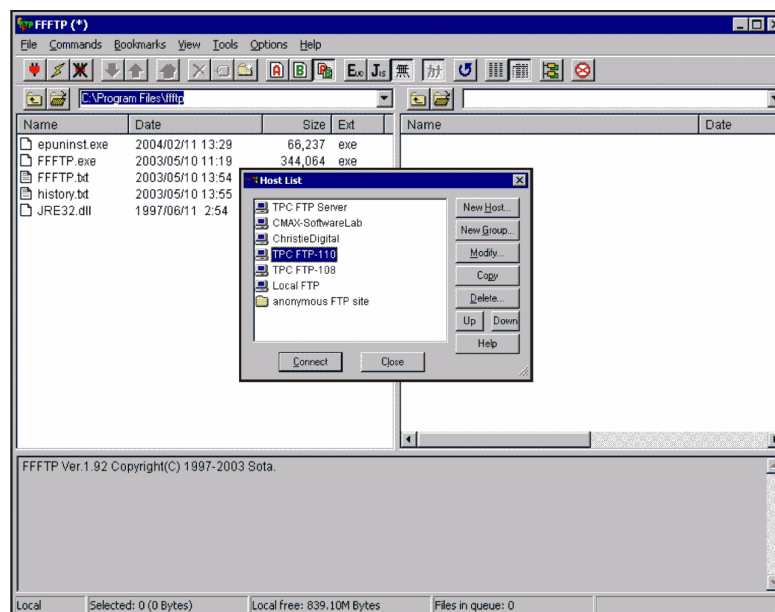

Figure 3-41 Main FFTP Window with Host List
1. Run FFFTP on a PC that is connected to the same network as the TPC. At the main window, click the **Connect** icon or **File Connect** menu. The **Host List** box should appear (**Figure 3-41**).